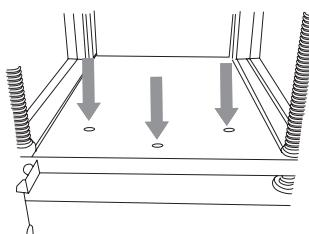

Fig. 15
- > On the bottom of the thicknesser table there are 3 holes, these are the locating holes for the corresponding locating points on the extraction port assembly. (Fig. 15)